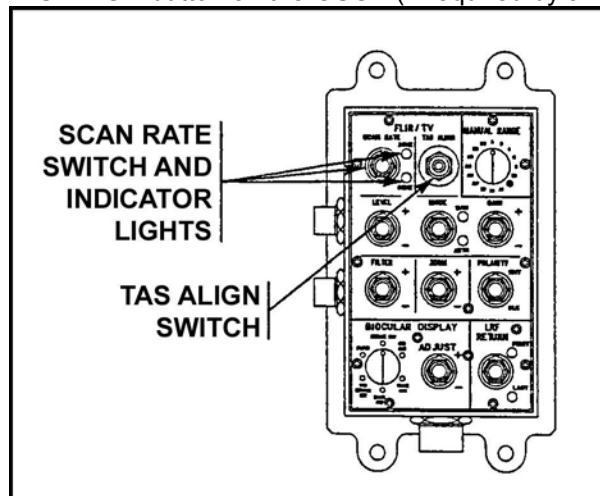

Figure 14. TAS ALIGN button.
- (b) Press TAS ALIGN button on the GSCP (If required by an IBAS message)(Figure 14).